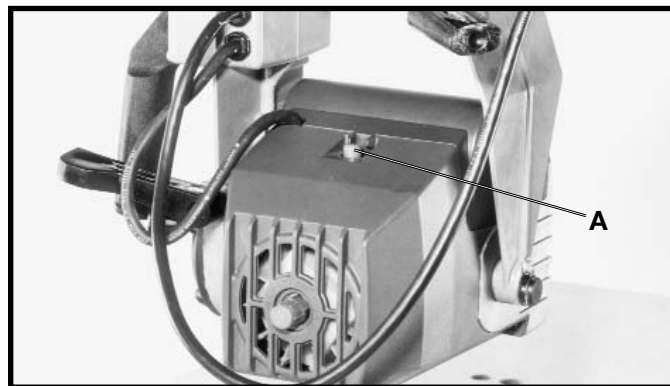

Fig. 82
The motor on your saw is equipped with a resettable overload relay (A) Fig. 82. If the motor shuts off or fails to start due to overloading, or low voltage, turn the switch to the **“OFF”** position, let the motor cool three to five minutes then push the reset button (A). The motor can then be turned on again in the usual manner. Some conditions that may cause overloading are; cutting stock too fast, using a dull blade, using the saw beyond its capacity, etc.
When ripping work less than 4 inches wide, a push stick should be used to complete the feed and could easily be made from scrap material by following the pattern shown in Fig. 82.